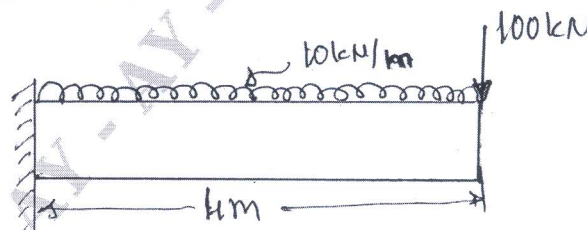

Fig.Q.7(b)
- b. Determine the maximum deflection and internal loads in the uniform cross-section of the cantilever beam as shown in Fig.Q.7(b). If the beam is treated as a single element. Take $E = 70 \times 10^9 \text{ N/m}^2$, $I = 4 \times 10^{-4} \text{ m}^4$. (12 Marks)